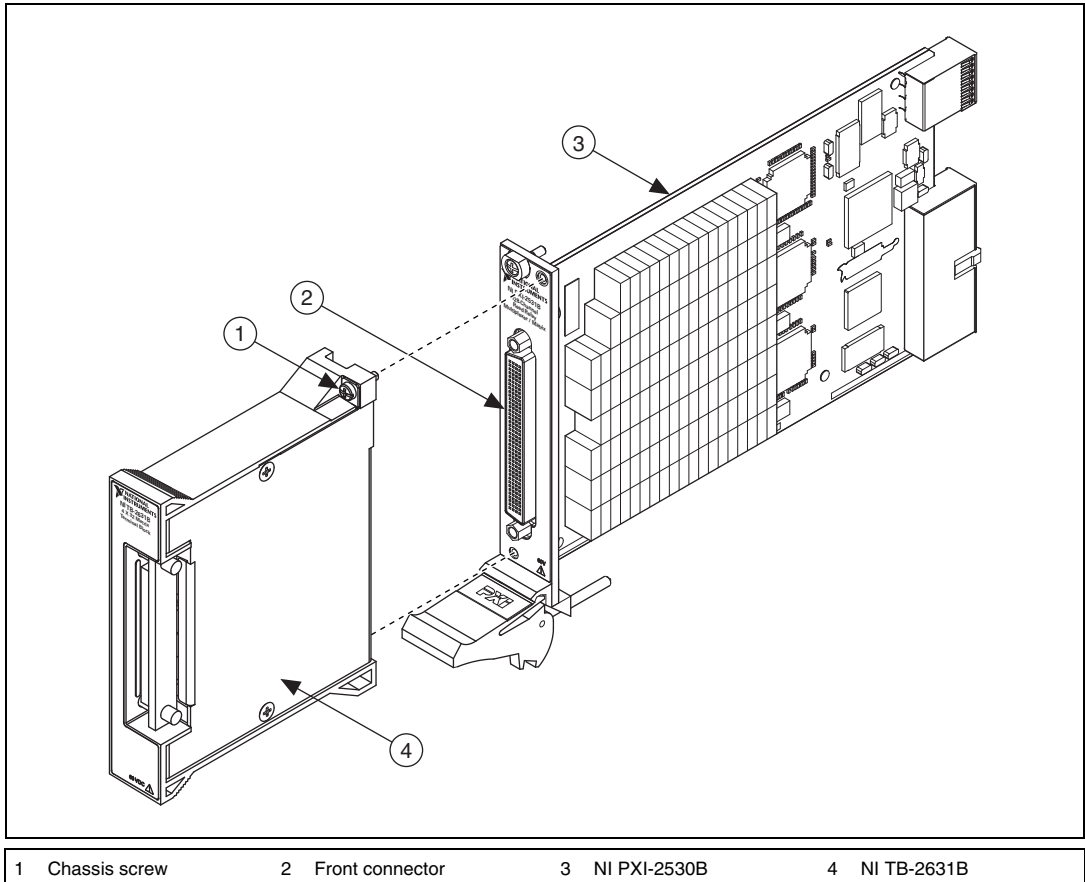

Figure 3. Installing the NI TB-2631B Terminal Block
1. Plug the NI TB-2631B on to the front connector of the NI PXI-2530B as shown in Figure 3.